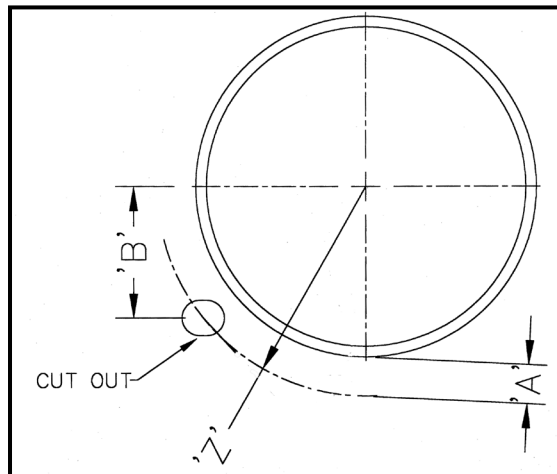
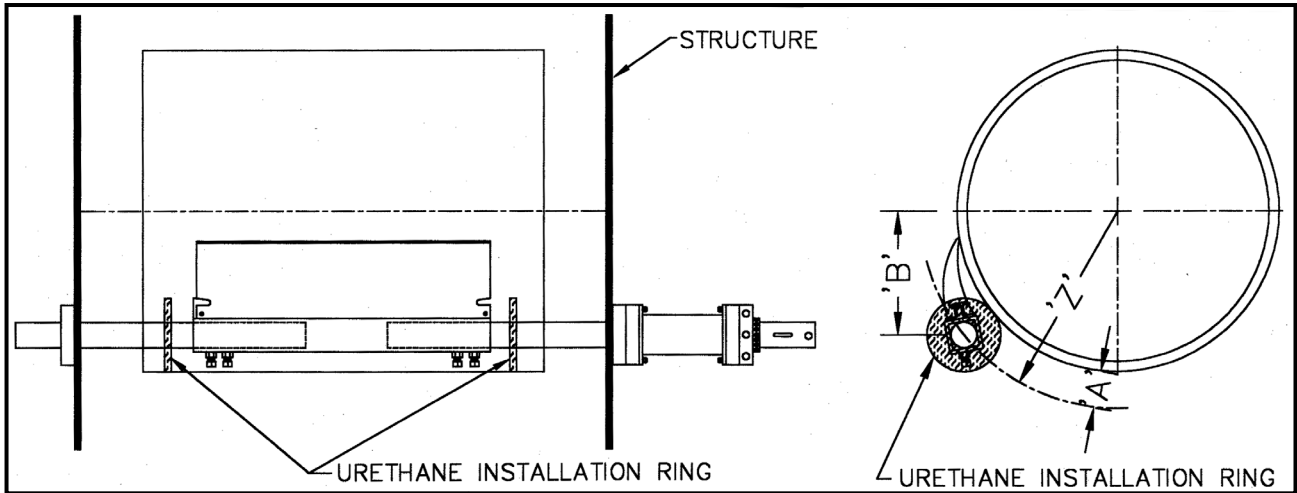

FIG 1
FIG 3
To this number add dimension 'A' (either 2 $\frac{3}{4}$ " (69.85mm) or 3 $\frac{1}{2}$ " (88.9mm)). To determine dimension 'A' (spacing from the face of the belt), you must first determine the head pulley diameter. If the pulley diameter is 22" or smaller, then an 'A' dimension of 3 $\frac{1}{2}$ " (88.9mm) should be used. If the head pulley diameter is larger than 22", use an 'A' dimension of 2 $\frac{3}{4}$ ". This will give you the 'Z' dimension. See Fig 1. To assist you in achieving this spacing, urethane "installation rings" have been included with the cleaner (see figure 3). Use these as directed in step 7.
From the centerline of the head pulley measure down 9 1/2" (241.3mm) (See Fig 1, Dimension 'B'). This is the highest point that the cleaner should be mounted. It can be mounted anywhere along the radius that was marked off in step 3. The limiting factor is the restriction of a dribble chute or lack of a dribble chute at the point where the belt leaves the head pulley on the return side. **Note: DO NOT install the cleaner within the trajectory of the material.**
Put the frame and blade assembly (Items 1 & 3 - Fig 2) inside the chute and slide the support and tensioner pipes (Items 2 & 5 - Fig 2) through the 2 1/2" (63.5mm) x 3" (76.2mm) holes previously cut. Then slide the weld collar (Item 7 - Fig 2) and the tensioner (Item 4 - Fig 2) onto the support & tensioner pipes. Next, level the cleaner in relation to the head pulley. Verify the 'Z' dimension by slipping the installation rings (see figure 3) onto the support & tensioner pipe. If the head pulley diameter is larger than 22", remove the outer ring. The installation ring should be placed so that bumps against the belt face. Tack weld the weld collar and tensioner into place. Set the cleaner blade against the belt and insert the pin (Item 6 - Fig 2) into the tensioner hub. Tighten the setscrews on the mainframe and complete welding on the hubs (3-1" (25.1mm) welds on each hub is enough). Pull the pin again to check if the cleaner rotates freely in the hubs; if it doesn't, realign the hubs until it rotates freely. Note: For dual tensioner cleaners, there will not be an item 7, it is replaced by a second item 4.